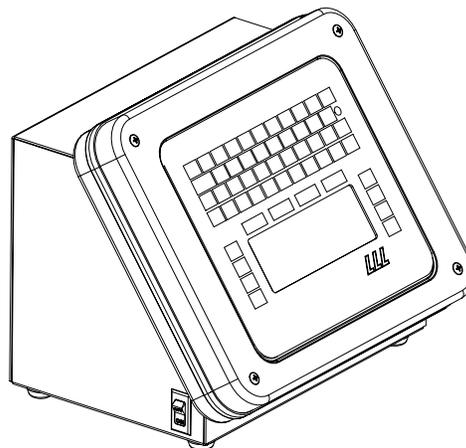

Figure No. 3
6. Secure the front cover to the main housing with the four (4) screws removed in step 1. See Figure No. 3.